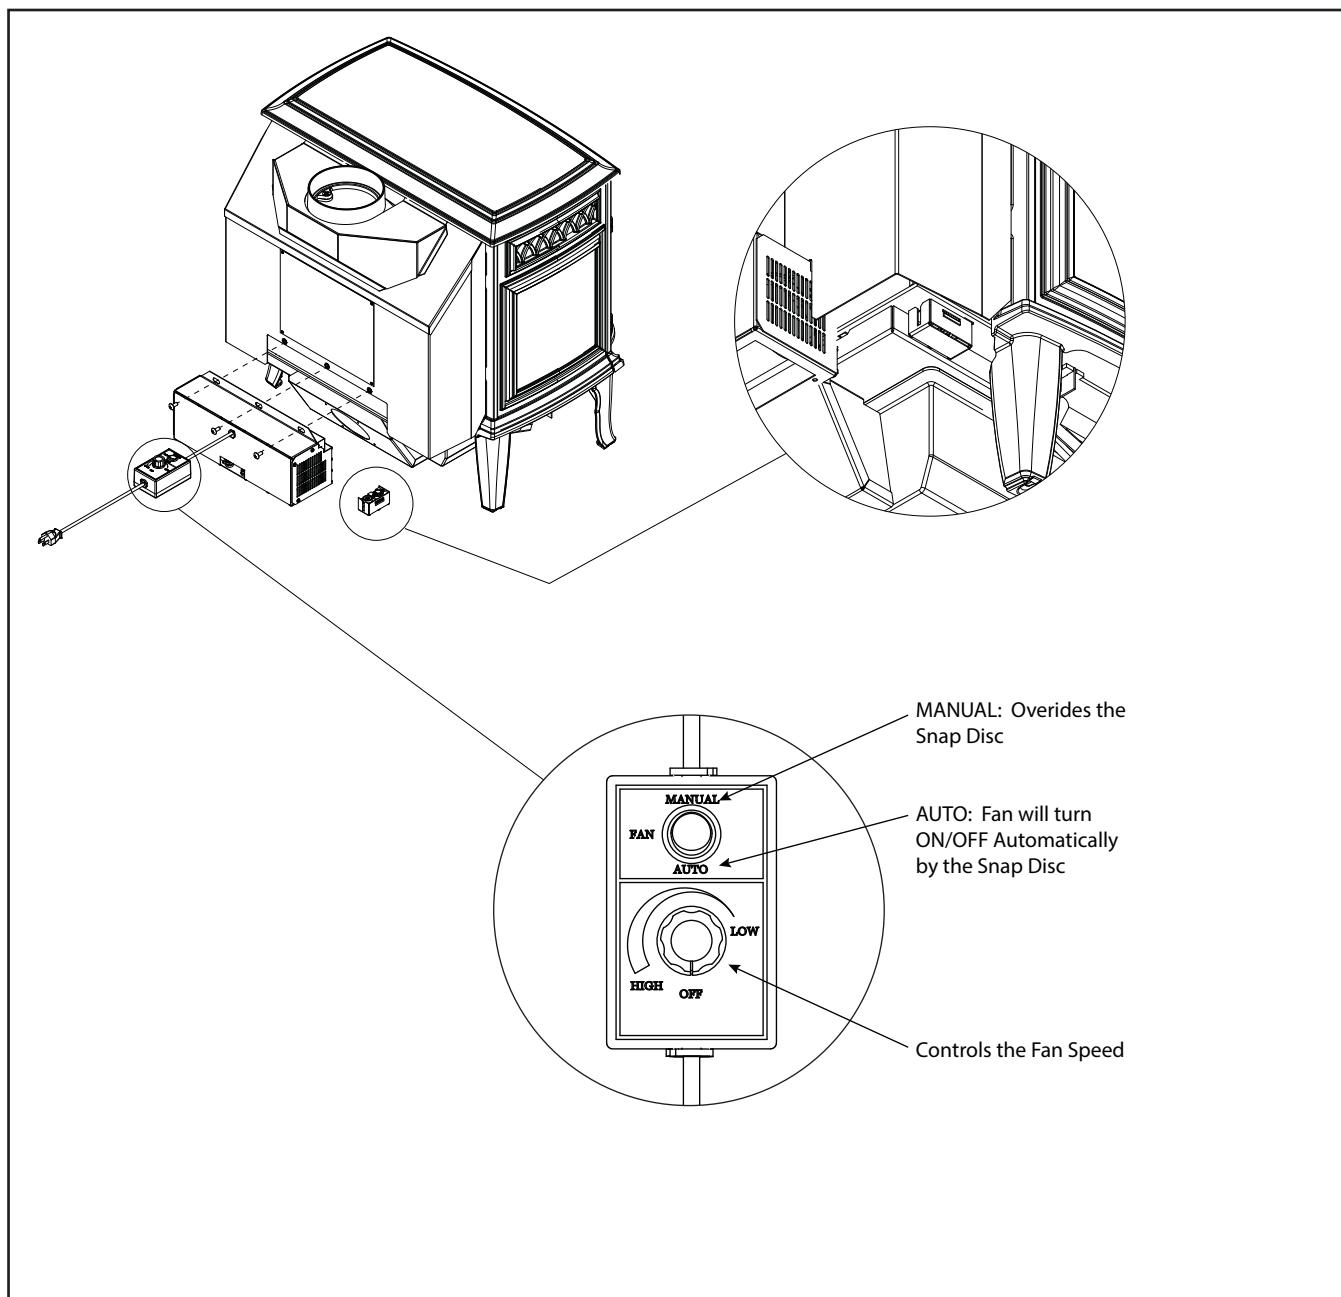

Figure 16.1
2. Align holes in mounting flange of blower with bolt holes in appliance. Blower should be positioned at bottom of rear outer skin as shown in **Figure 16.1**.